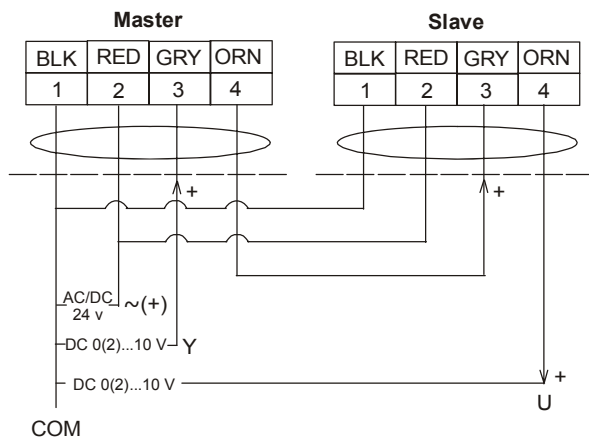
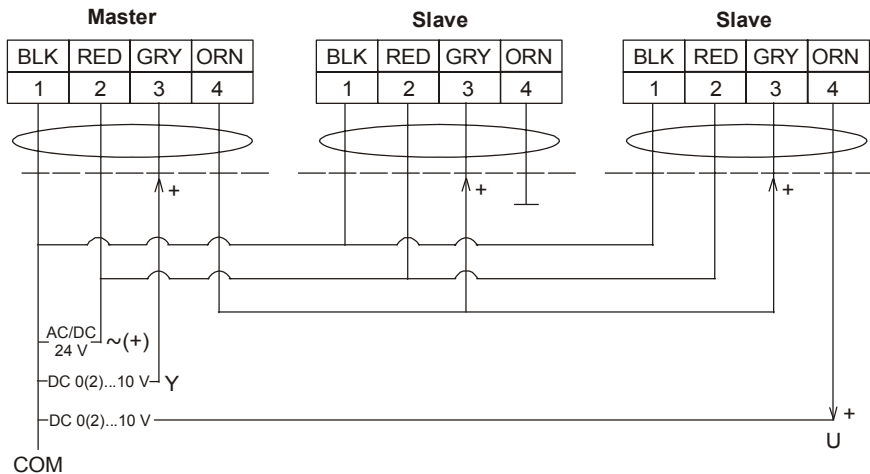

Figure 17: Tandem Connection
Figure 19: Tandem Connection with Three Actuators
The tandem configuration (Figure 17 and Figure 19) provides twice (with two actuators) or triple (with three actuators) the running and spring return torque of a single actuator, or 354 lb·in (40 N·m), 531 lb·in (60 N·m). The actuators may be mounted in tandem using the M9000-158 Tandem Mounting Kit. To mount a third actuator, user-configured bracketing is required..
- Two or three DMS24-180 Series actuators may be operated in tandem on the same shaft. If mounting two actuators, see Figure 17; for three actuators, see Figure 19.